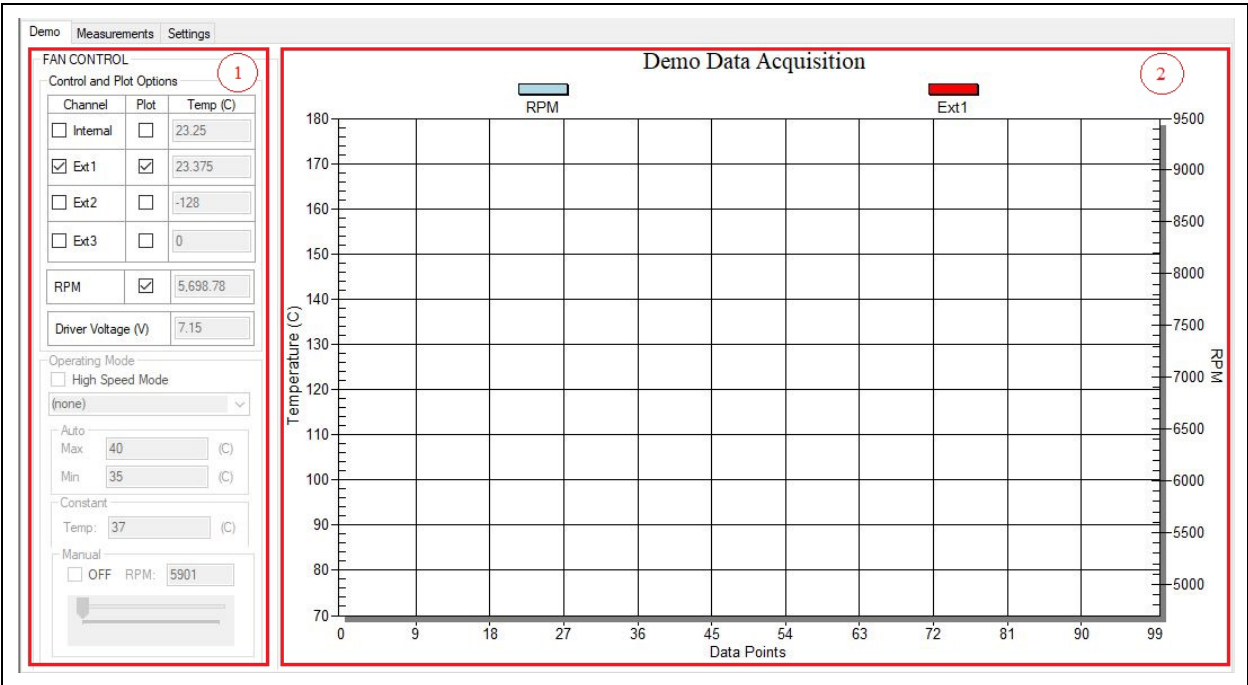

FIGURE 3-7: Demo View Section.
The Demo View section (Figure 3-7) consists of a Demo Options area (1) and a Temp/RPM Charts area (2).
This section displays the fan RPM and its corresponding heat source value (°C). The data plots from the temperature channels and the RPM value can be toggled on/off from the corresponding fan Plot On checkbox, located in the Demo Options section. (Figure 3-7).